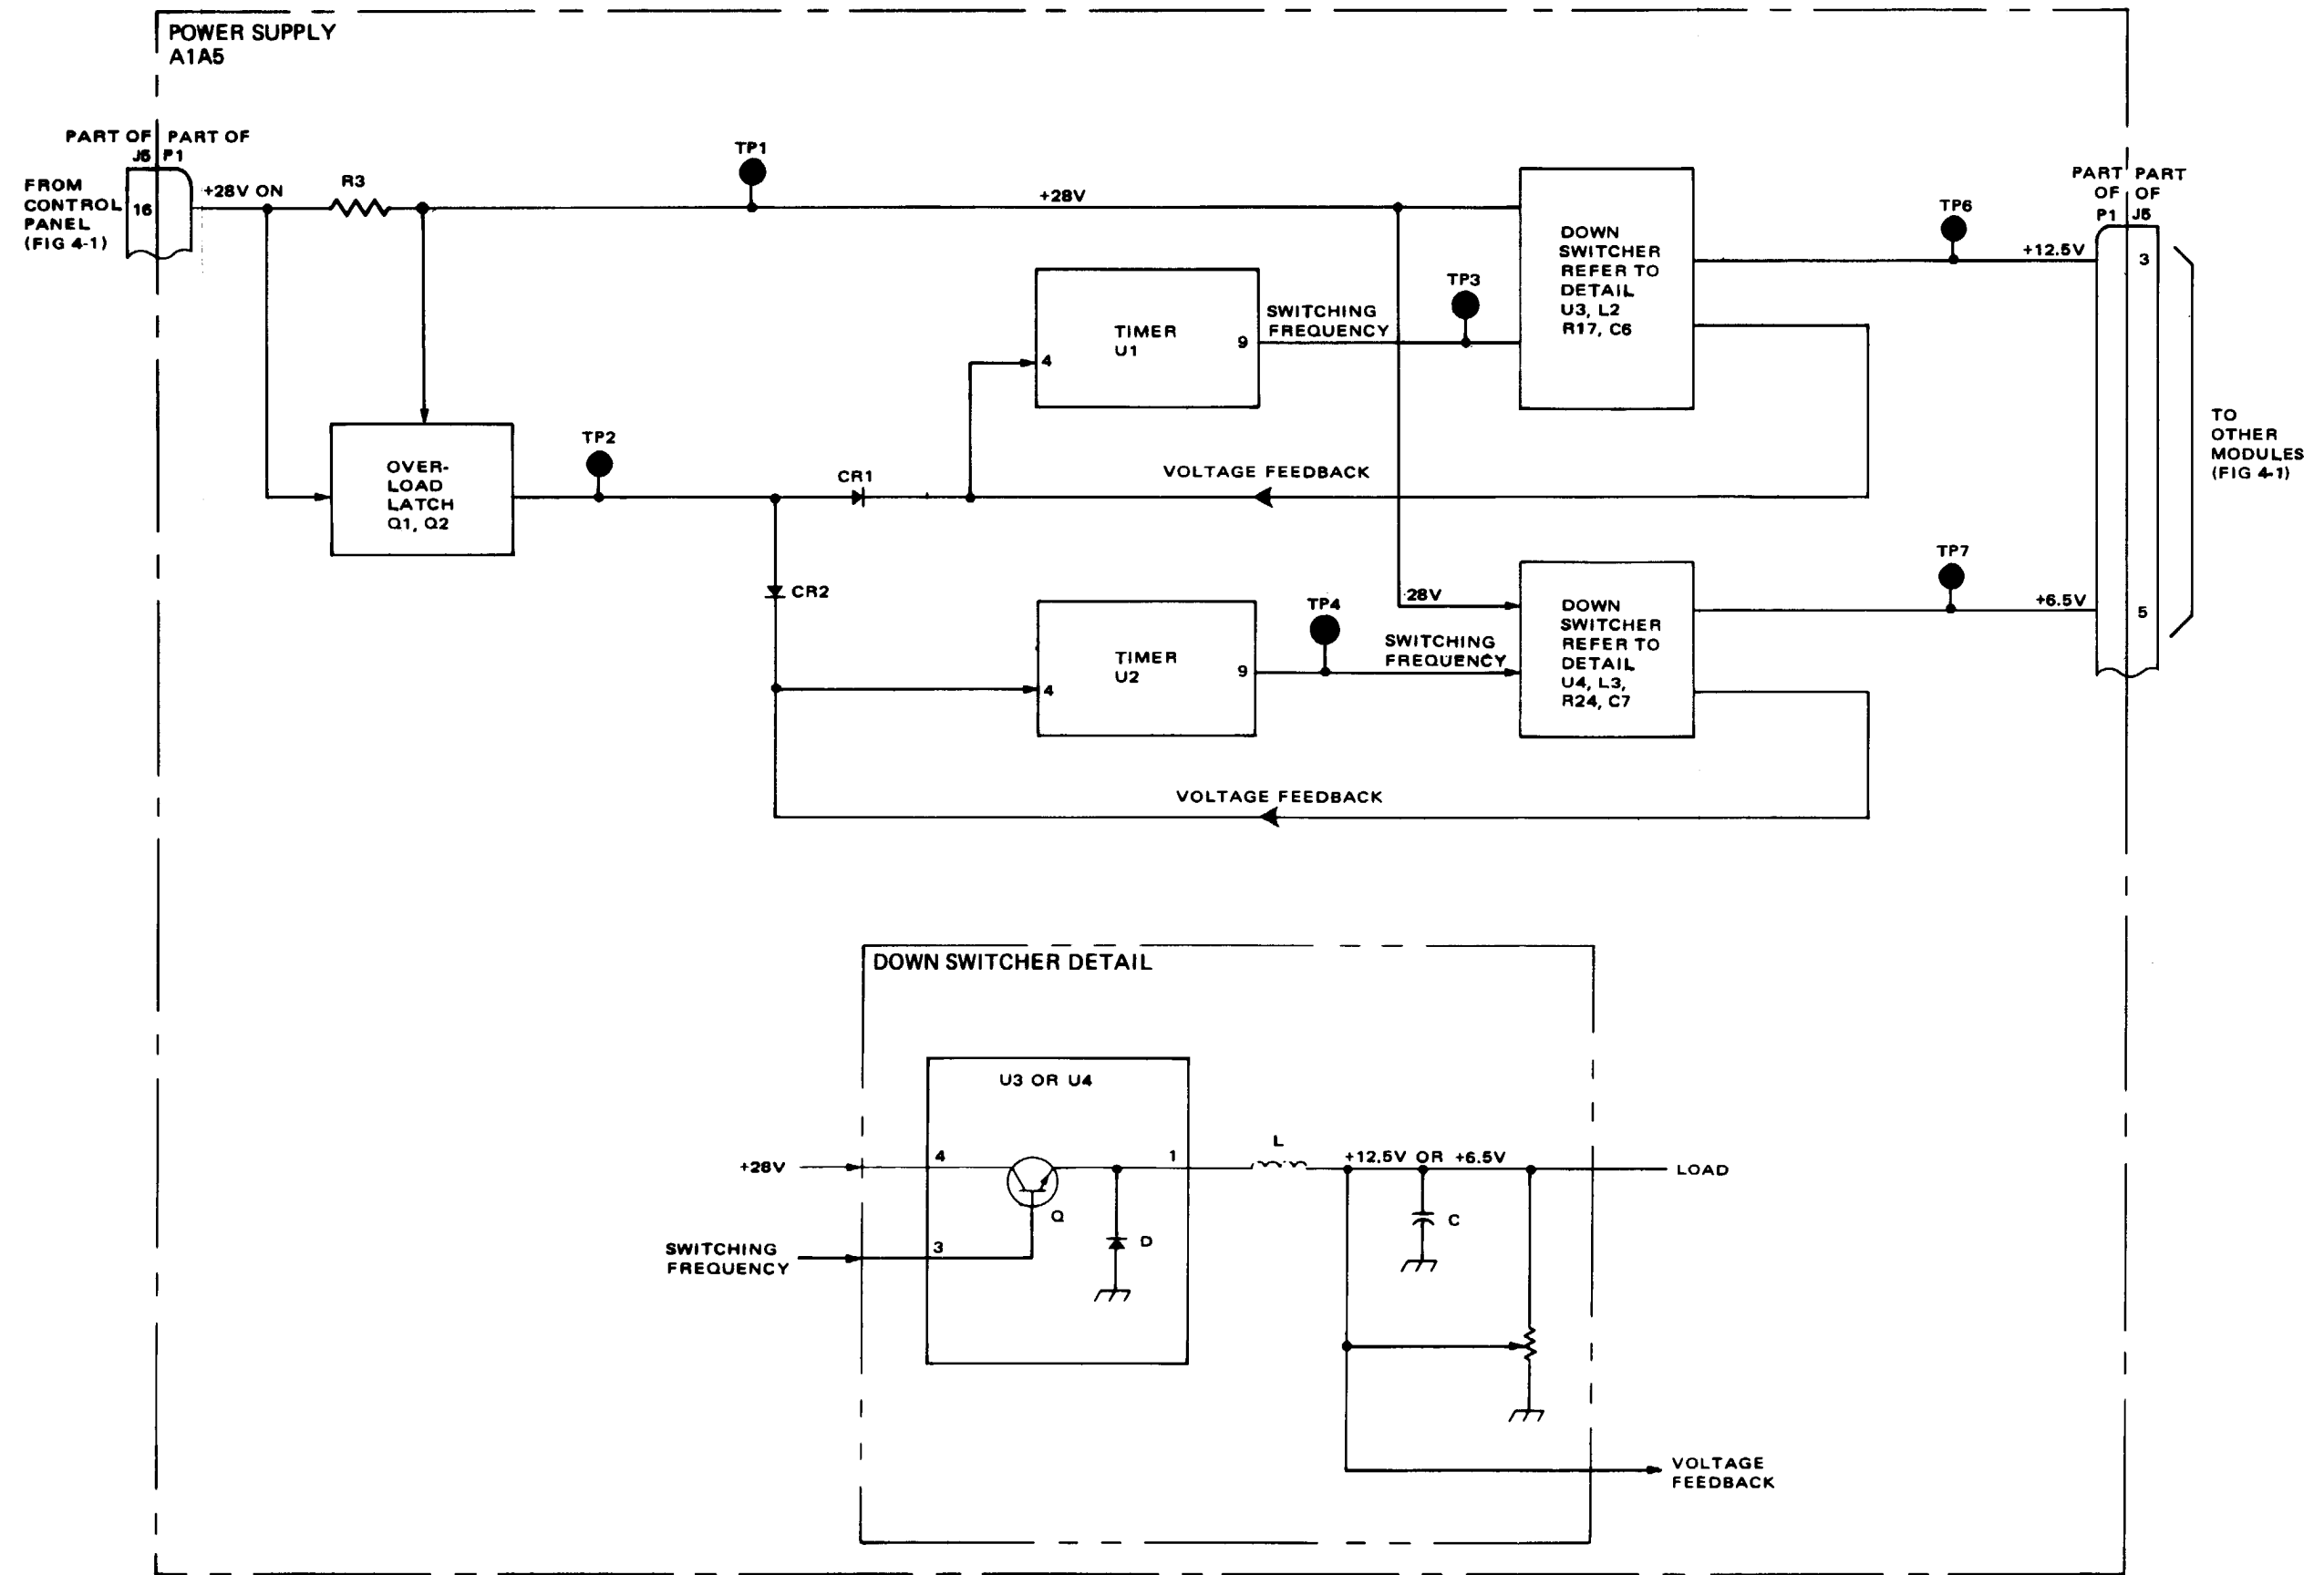

Figure 2-11. Power Supply A1A5
2-104. POWER SUPPLY (Figure 2-11).
2-106. Down Switching. The actual conversion from +28v to +12.5v/+6.5v is performed by the down switchers U3 and U4 shown in the detail of figure 2-11. A transistor switch (Q) is driven on and off at a switching frequency of approximately 77 kHz. When the switch (Q) is closed, current flows through the inductor (L) and charges the capacitor (c). When the switch opens, the energy stored in the inductor (L) is transferred into the capacitor (C) via the diode (D). The voltage on the capacitor (C) is determined by the ratio of closed to open time of the switch (Q). The switch (Q) and diode (D) are integrated parts of switching regulators U3 or U4. The other elements are discrete.